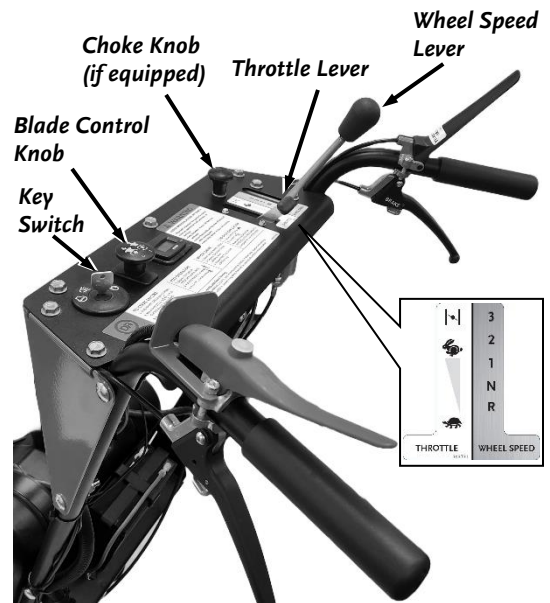

Figure 16
1. Move the Wheel Speed Lever to Neutral **N** (**Figure 16**).
3. Move the Throttle Lever to Choke , or pull up on the Choke Knob (if equipped) **Figure 16**.
1. Move the Shift Lever to Neutral **N** (**Figure 16**).
- When the Engine starts, move the Throttle to the Fast  position (**Figure 16**).